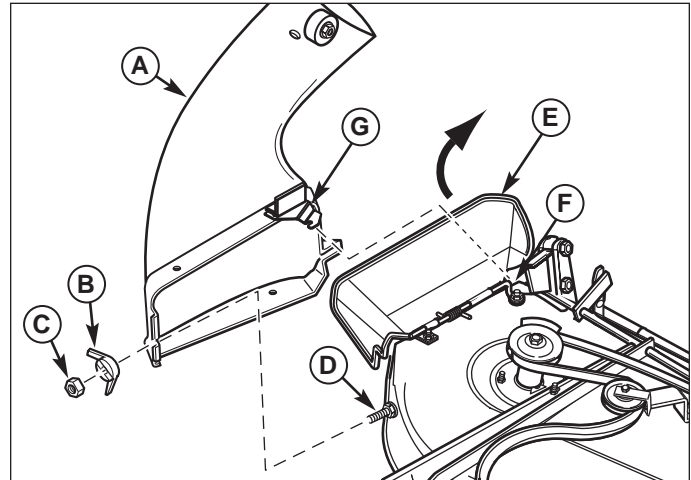
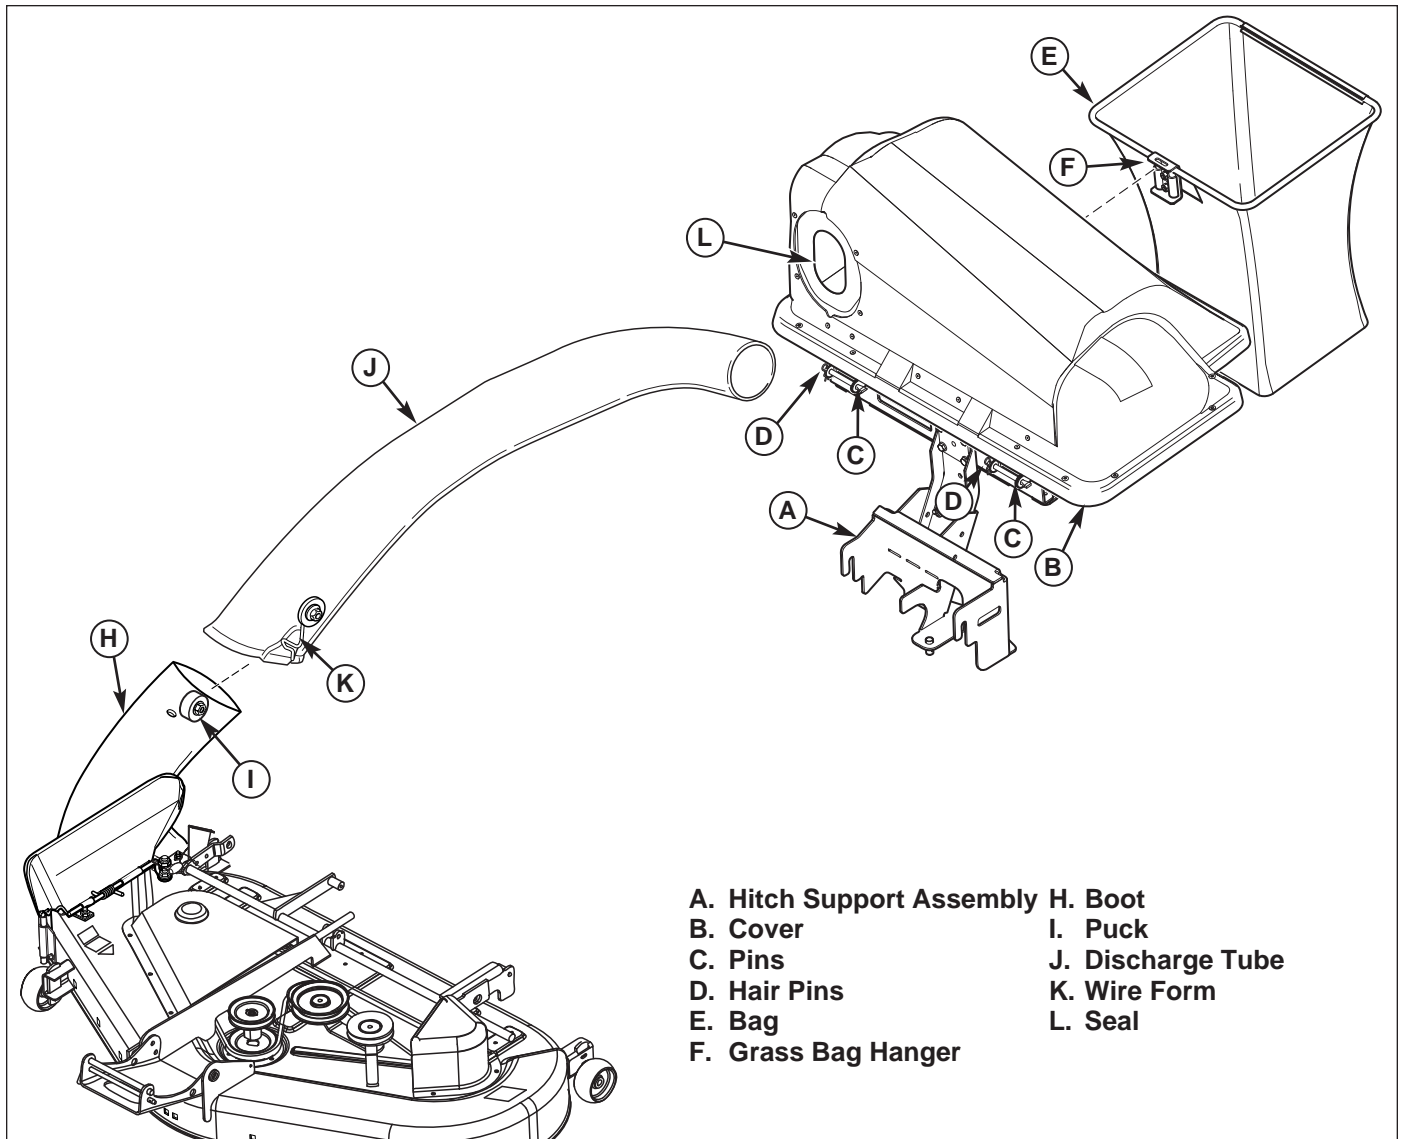

Figure 14. Install Lower Discharge Chute 38" Free Floating Mowers
Figure 15. Normal Installation & Removal
1. Lift discharge deflector up (E, Figure 14).
2. Slide the notch of bracket (G) on to deflector hinge rod (F).
3. Secure the front of lower chute (A) to carriage bolt (D) using wing nut (B).
4. Mount the hitch support assembly (A, Figure 15) onto rear tractor frame.
5. Attach cover (B) to support assembly using pins (C) and hair pins(D).
6. Pivot cover (B) up. Install bags (E) with white bar (F) towards the rear.
7. Slide discharge tube (J) into seal (L).
8. Attach the discharge tube (J) to boot (H) and secure the tube by moving wire form (K) down over metal puck (I).
1. Disconnect the discharge tube (J, Figure 15) from boot (H) by moving wire form (K) up and out from metal puck (I). Remove discharge tube (J) from seal (L).
3. Remove and empty bags (E, Figure 15).
4. Lift discharge deflector up (E, Figure 14).
5. Loosen wing nut (B).
6. Slide lower chute (A) off carriage bolt (D) and deflector hinge rod (F).